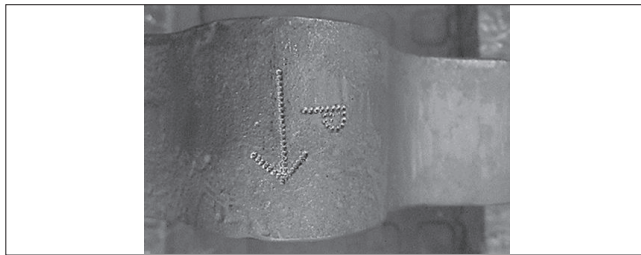

Fig. 7 Pressure direction
- Turn the valve in such a manner that the arrow (P for pressure) on the body points to the pressure direction of the process. (see Figure 7)